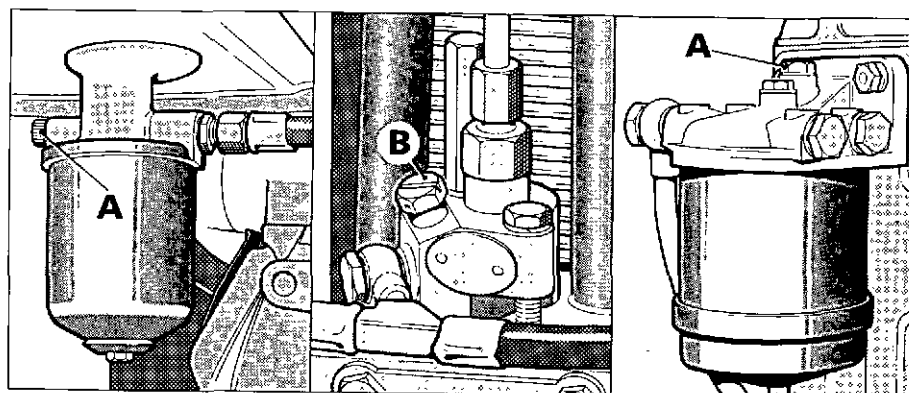

Fig. 30 Priming Fuel System
**PRIMING FUEL SYSTEM (Fig. 30)**